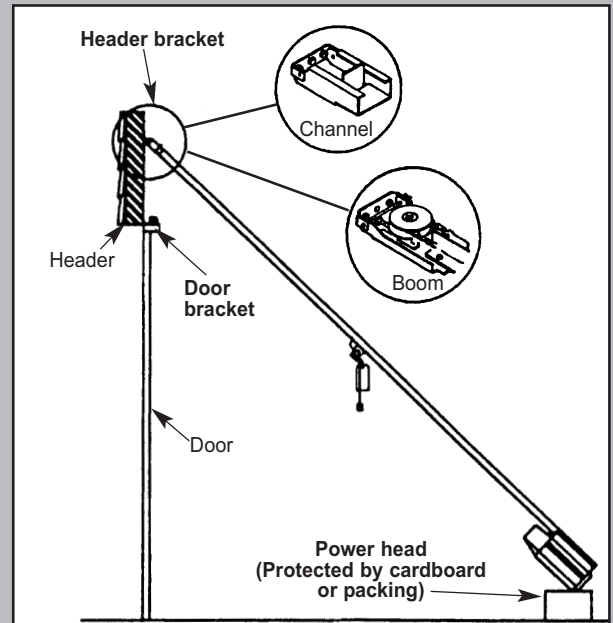

Fig. 2-13
7. Attach channel/boom assembly to header bracket (Fig. 2-13).